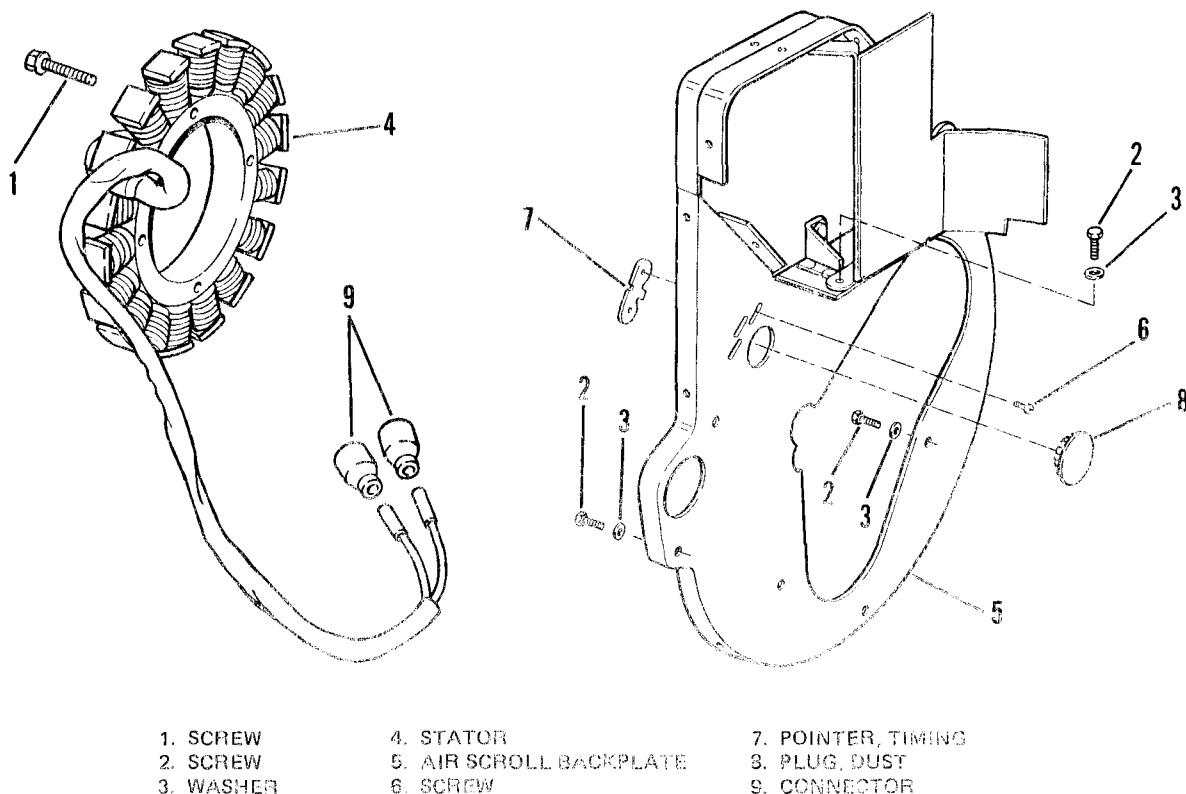

Figure 7-25. Battery Charger Stator.
- (1) Remove flywheel and fan, refer to paragraph 7-10.
- (2) Remove screws (1, Figure 7-25).